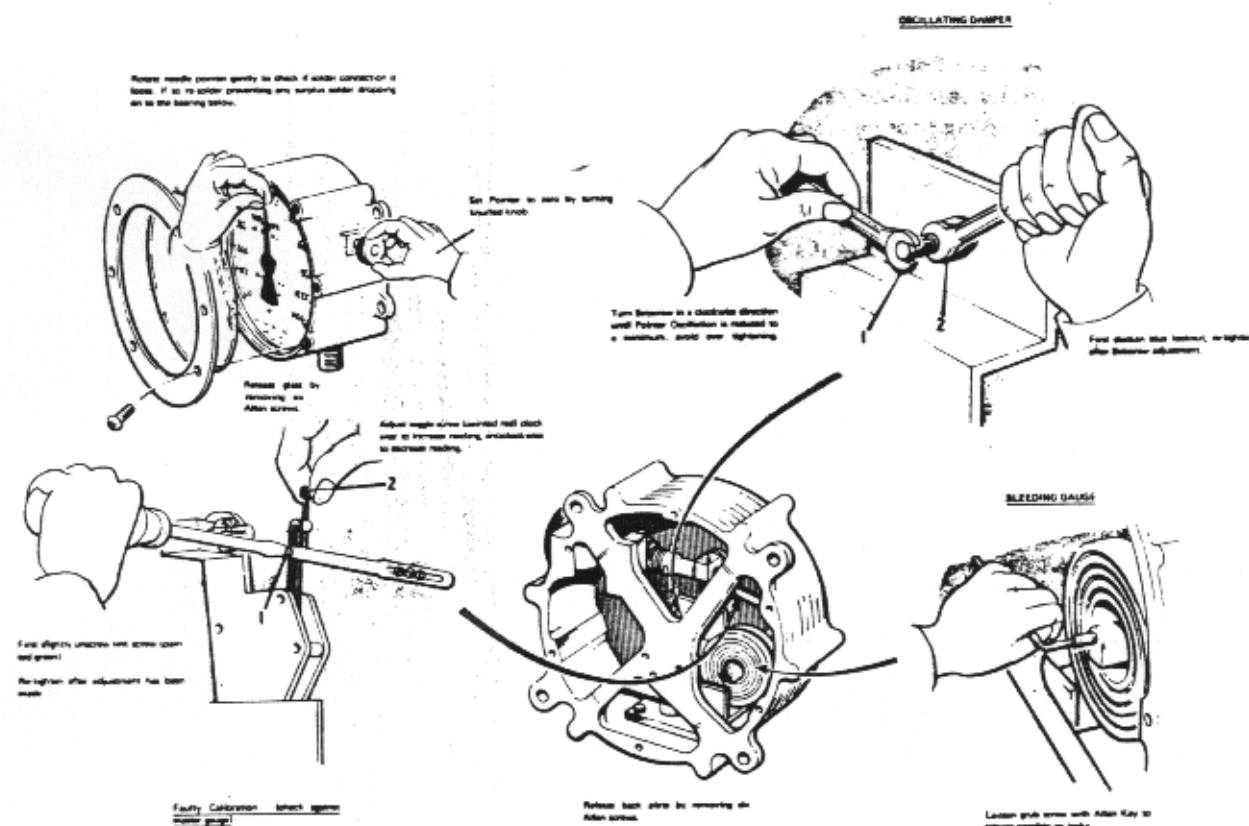

FIG. 1 GAUGE ADJUSTMENT
Gauge Adjustment	Fig. 1
If by any chance a loaded hopper is dropped on to the loadcell by accident, causing undue shock to the gauge, this could loosen the pointer needle which is soldered on to its spindle. If this happens, remove the gauge from the loadcell pipe and release the front glass. Rotate the needle pointer gently to check if the solder connection has become loose. As shown in Fig. 1. If so, re-solder carefully. To ensure correct position for re-soldering pointer. Set the zeroing knob at a mid-position, and solder the pointer back from zero, the combined weight of cradle and hopper. Make sure that surplus solder does not run into the small bearing behind the needle pointer.
If the gauge needle pointer should oscillate unduly, first remove the back plate, by removing six Allen screws. For identification purposes, the only parts requiring adjustment for oscillation are painted blue. Loosen the blue locknut (1), as shown in Fig. 1, and turn the hexagon headed screw (2) below in a clockwise direction, until the pointer oscillation is
If the calibration is found to be inaccurate, the pointer should be adjusted against a master gauge, as shown in Fig. 1. For identification purposes, the only parts requiring adjustment for calibration are painted red and green. First, slightly loosen link screw (1) painted green, then adjust knurled toggle screw (2) painted red, by hand. Turn clock-wise to accelerate the reading and anti-clockwise to decrease reading. This should be done on a gauge test rig or equivalent. After correct adjustment has been made, retighten link screw (1). Other screws must not be interfered with.
Due to a vacuum the gauge will invariably hold its quota of oil, but in any case, lay the gauge on its face and fix a right-angle adaptor to the oil inlet and fill with Wakefield Girling Brake and Clutch Fluid (crimson), shown in Fig. 8 open the bleed screw situated on the middle coil of the Bowden tube shown in Fig. 1. The weight of the fluid will expel any trace of air. Care should be taken to avoid oil dripping onto the back of the dial face. Ensure that the bleed screw is correctly tightened.
When the filling operation is complete, the gauge and loadcell may be refitted to the machine and tested with known weights, provided the adjusting screws in the gauge which control calibration have not been moved, the gauge should register correctly. A zeroing knob is provided on the side of the gauge, as shown in Fig. 1, this should be adjusted with the hopper empty and down on the loadcell. Check there is a clearance between the hopper and ground before zeroing.